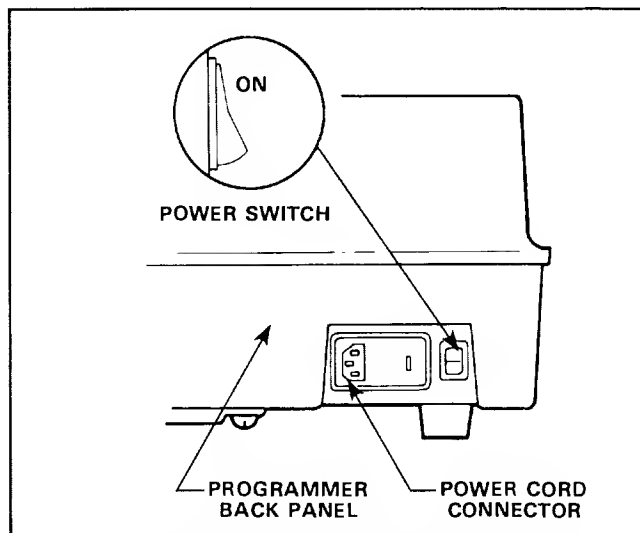

Figure 3-3. Programmer Power Switch Location
3. Flip the power switch up to the ON position; see figure 3-3.
3. Flip the power switch down to the OFF position (figure 3-3).